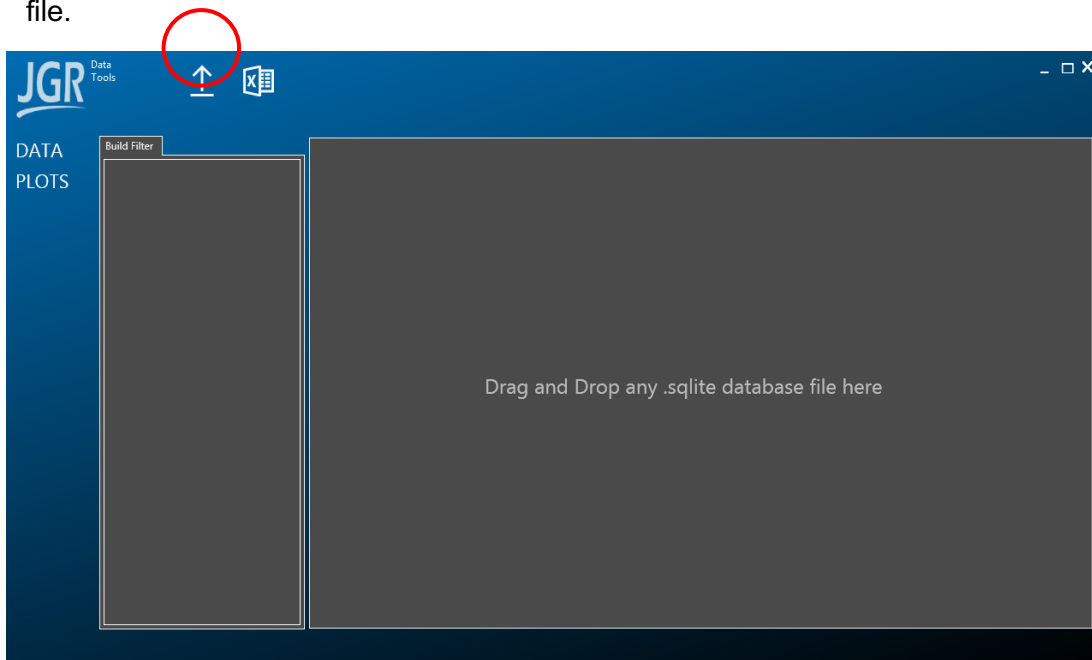

Figure 40: Data Tools – load an .sqlite database file
- Open JGR Data Tools then click on the icon below (Figure 40) to load an .sqlite database file.